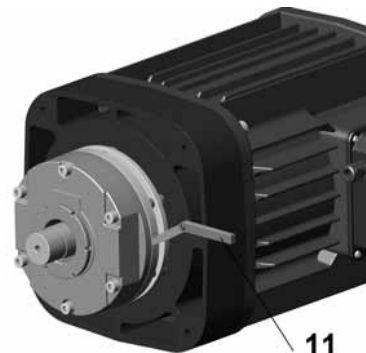

fig. 152
9. Put back the grill -4- by screwing up completely the four screws -6- (fig. 152).